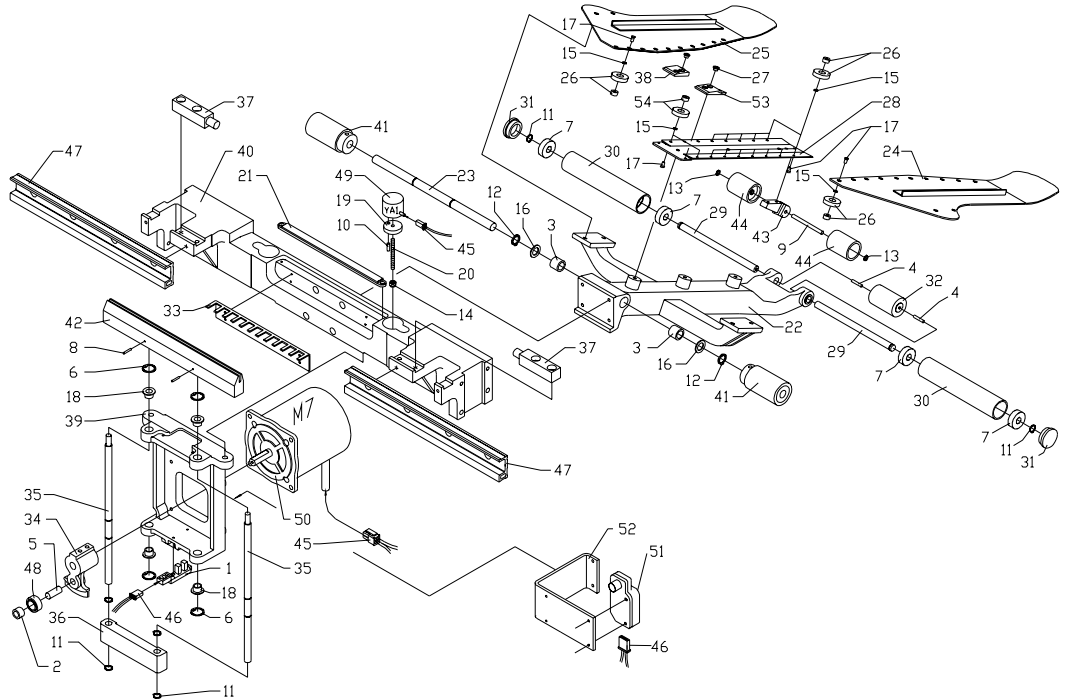

Figure 8-15
3. Remove the cutter assembly by removing the two mounting bolts from the mount (item 39 in Figure 8-15).
5. Remove the cutting channel and the follower (item 36 in Figure 8-15).
6. Remove the cam (item 34 in Figure 8-15) by loosening the 2 set screws.
5. Remove the pivots (item 37 in Figure 8-15) by removing the four bolts, and remove the sealing belt assembly from the machine.